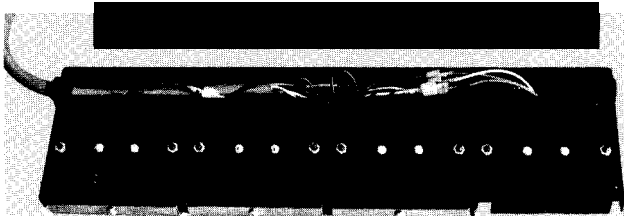

Fig. 33
- 2) Disconnect cord by disconnecting all wire connectors shown in Fig. 33.